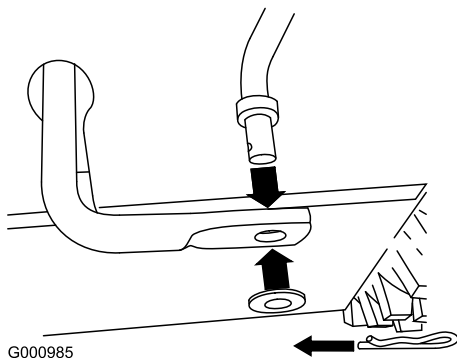

Figure 2
3. Remove the hairpin cotter and washer from the end of the speed control rod and insert the end into the lower link arm (Figure 2).